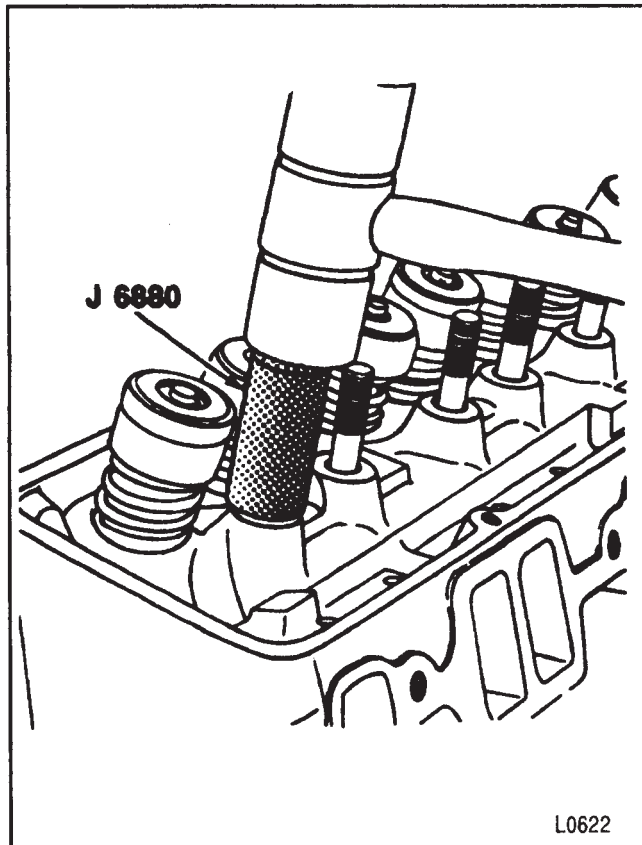

Figure 20—Installing the Rocker Arm Stud (VIN Z Engine)
1. Rocker arm stud. Use J 6880 (figure 20). Stud is installed to proper depth when the tool bottoms on the cylinder head.